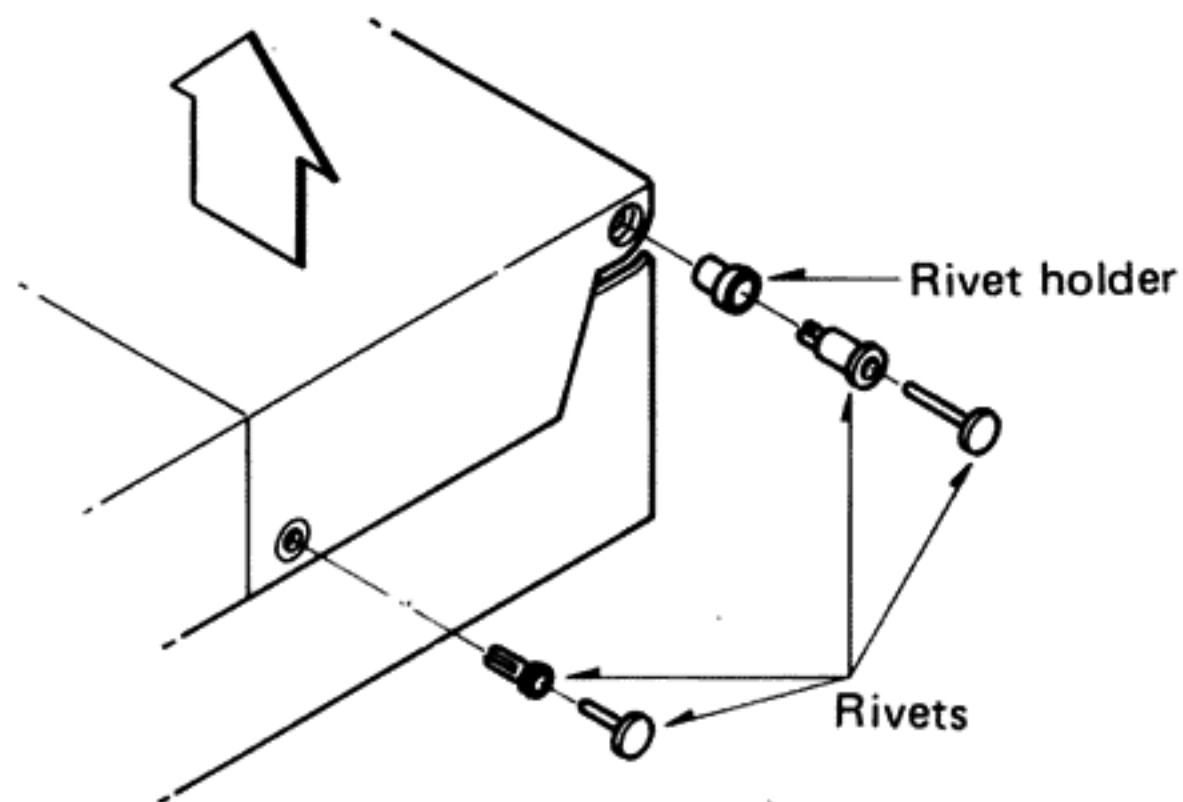

Fig. 12
1. Pull out the 4 right and left rivets and 2 right and left rivet holders. (Fig. 12)
2. Lift the dust cover in the direction of the arrow. (Fig. 12) Then the dust cover can be removed.